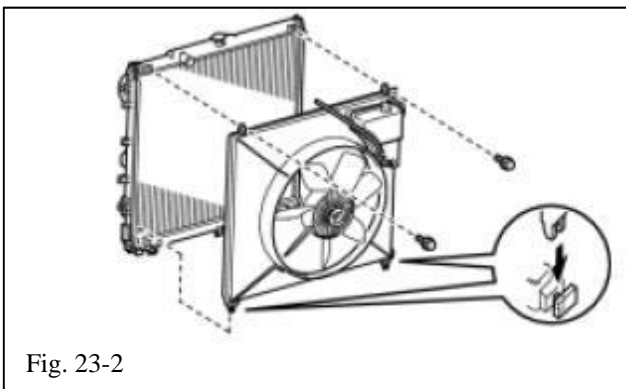

Fig. 23-2
- (d) Lower the fan and shroud together. Clip the fan shroud into the lower radiator mounting tabs (Fig. 23-2).
- (f) Install the fan shroud using the 2 OE bolts (Fig. 23-2).